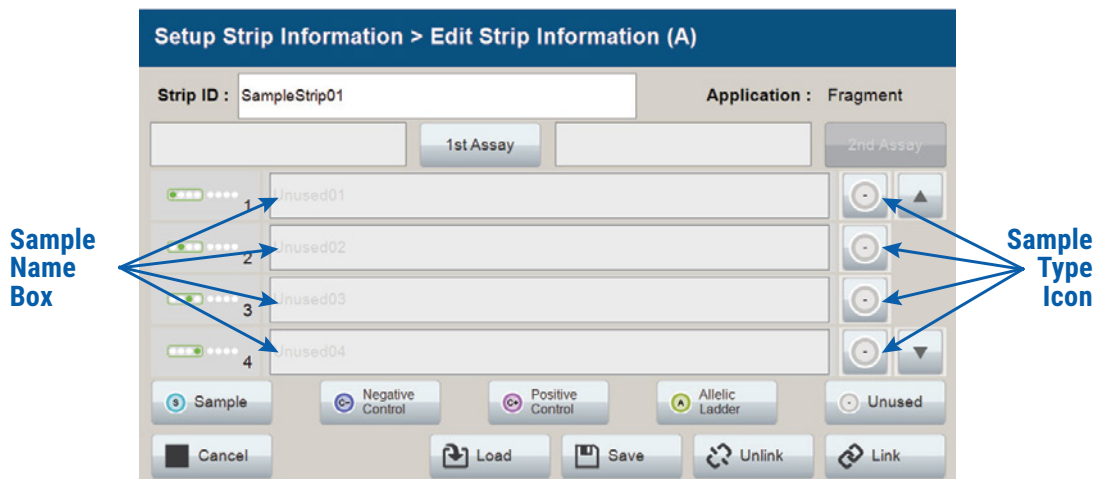
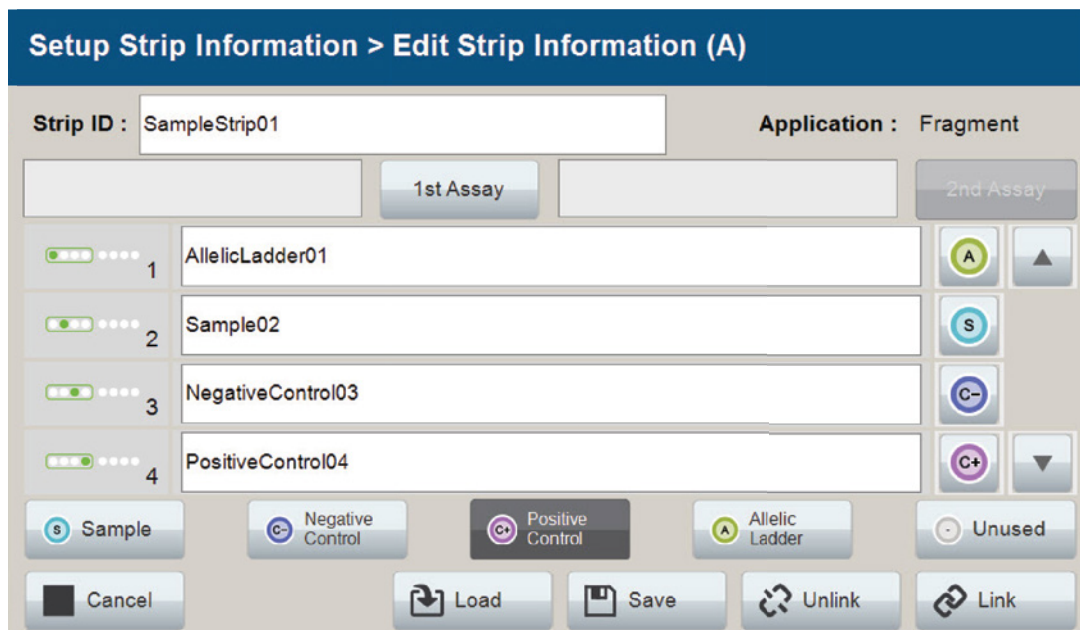
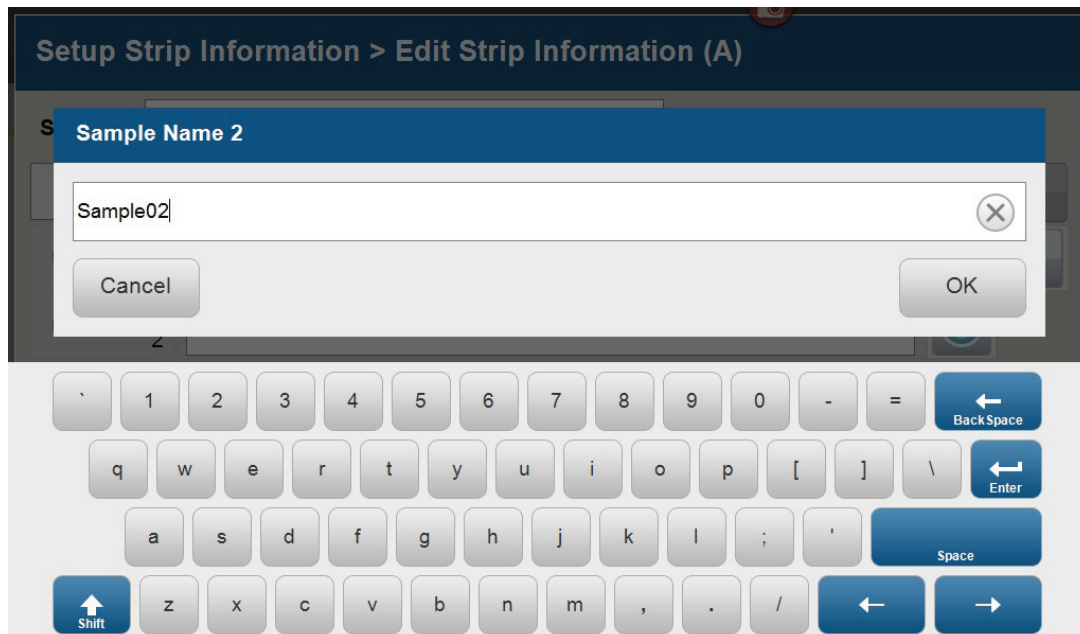
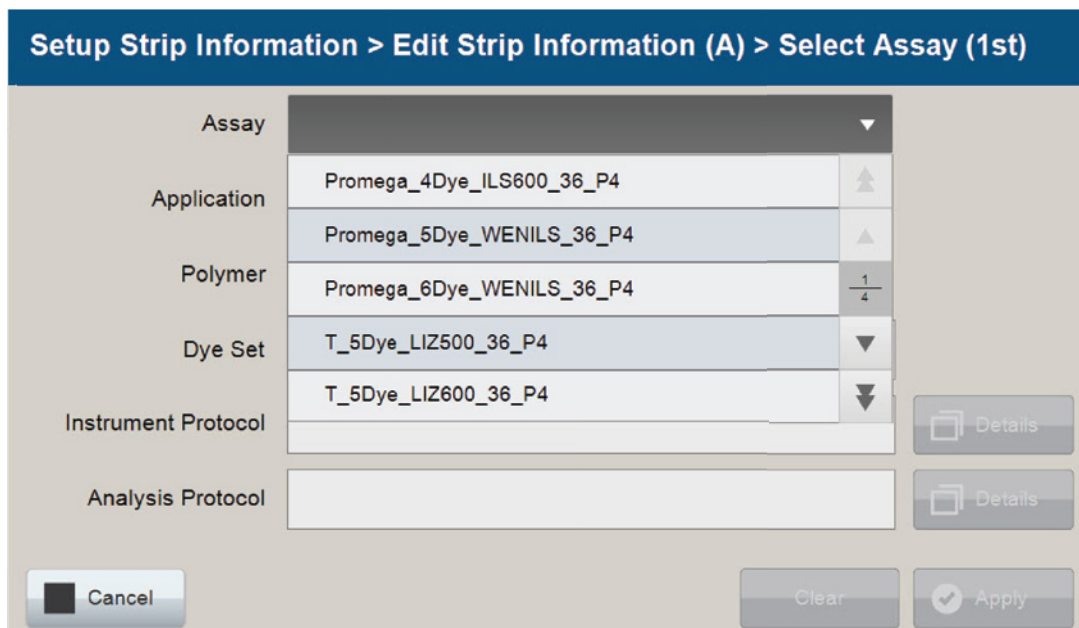

Figure 12. Sample Type and Sample Name on 'Edit Strip Information' screen.
Figure 13. Sample Name Entry on 'Edit Strip Information' screen.
Figure 14. 'Set Sample Name' window.
Figure 15. 'Select Assay' window.
4. Select a sample type on the 'Edit Strip Information' screen (Figure 12). Sample types must be selected for each well position before the **Sample Name** box becomes active for entry of sample name. Sample types are as follows.
5. To assign a sample type to a well, select the appropriate sample type along the bottom of the 'Edit Strip Information' screen (Figure 12), and then select the **Sample Type** icon to the right of the sample name field for the desired well. This icon will then display the sample type selected for that well (Figure 13).
6. Enter a sample name for each well position by selecting the **Sample Name** box adjacent to the well number on the 'Edit Strip Information' screen (Figure 13). This opens the 'Set Sample Name' window and a keypad will become active on the touch screen (Figure 14). Alternatively, the Sample Name can be entered using a traditional keyboard if one is connected to the Spectrum Compact CE System. Enter the appropriate sample name, and then select **OK** to exit and return to the 'Edit Strip Information' screen.
- The Spectrum Compact Control Software includes pre-loaded run assays for use with chemistries available from Promega. Refer to the *Spectrum Compact CE System Operating Manual* #TMD058 for information on creating or modifying assays. To assign a run assay to an injection set, select **1st Assay** on the right side of the '1st Assay' field (Figure 13). This opens the 'Select Assay' window (Figure 15). Select 'Promega_4Dye_ILS600_36_P4' from the drop-down list (Figure 15) and then select **Apply**.